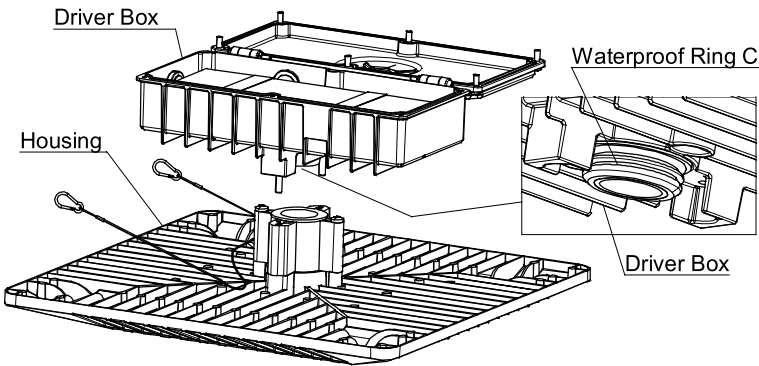

Figure 5
3. Remove Screws B (2) in the driver box. Separate wire connection between driver and LED board to set driver box and housing apart. See Figure 5.